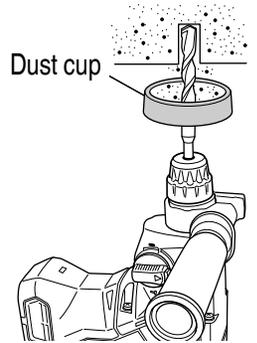
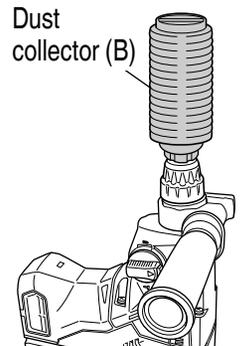

Fig. 9
Fig. 10
4. Installation of dust cup or dust collector (B) (Optional accessories) (Fig. 9, Fig. 10)
Use the dust cup by attaching to the drill bit as shown in Fig. 9.
- Installing dust collector (B)
When using dust collector (B), insert dust collector (B) from the tip of the bit by aligning it to the groove on the grip. (Fig. 10).